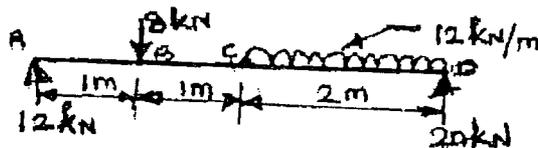

Fig.1.
2. Draw the shear force diagram for the beam shown in Fig. 1.